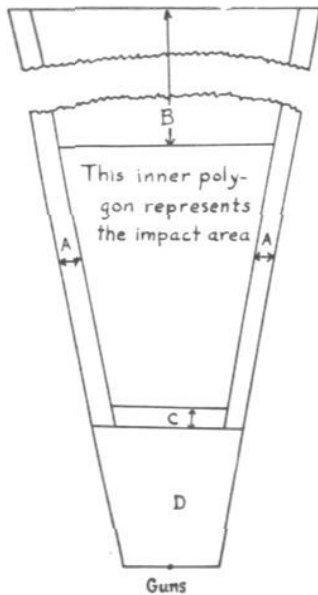

Figure 1
(1) The danger area (Fig. 1) consists of the impact area and areas A, B, C, and sometimes D. When a fuze other than a time fuze is used, areas A, B, and C and parts of D are danger areas and will not be occupied except as authorized in (2) below. When a time fuze is used, areas A, B, C, and D are danger areas and will not be occupied except as authorized in (4) below.
(1) No person will be permitted within the danger area as prescribed in paragraph 7 except as indicated in that paragraph and (when firing AA guns over the heads of personnel) as authorized in c below. However, to permit forward movement of troops, the short limit of the impact area may be moved in the direction of range by definite prearrangement. (A separate safety card should be prepared for each new position of the OP.)
(2) When chemical ammunition, except smoke, is being fired, persons within area D (Fig. 1) will be provided with serviceable gas masks.